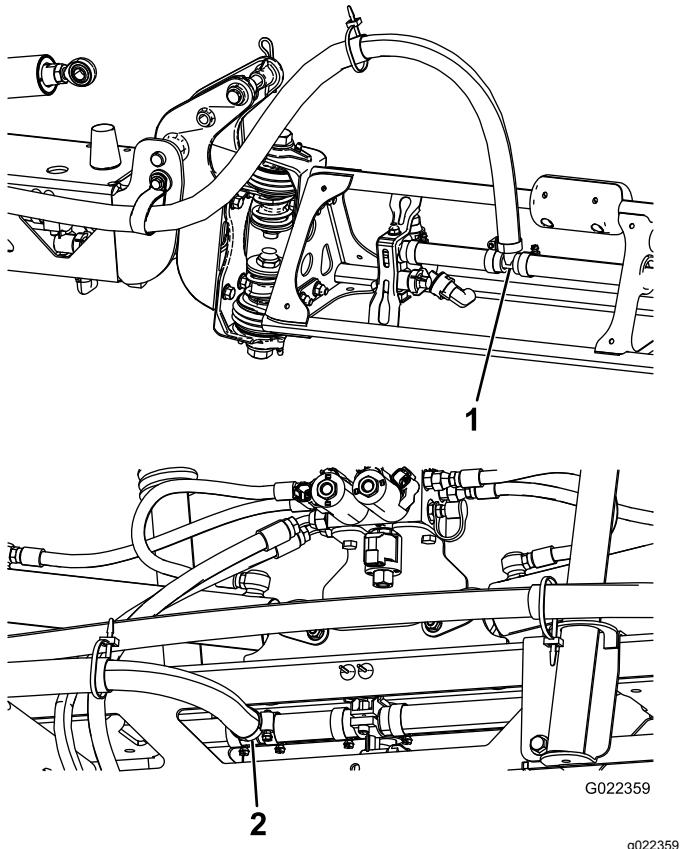

Figure 24
Note: Use liquid soap to coat the hose barb of the tee connections on both extension booms (Figure 24).
4. Use liquid soap to coat the hose barb of the center boom tee connection (Figure 24).
5. Route the center boom hose as shown in Figure 24.
6. Connect the center boom supply hose to the soaped barb and secure it with a hose clamp (Figure 24).